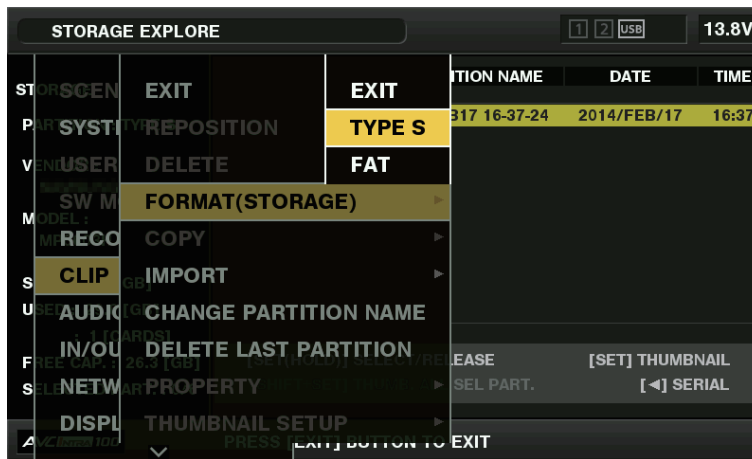

Fig. 1
- 2** Select the desired format ([TYPE S], [FAT]) in the main menu → [CLIP] → [FORMAT(STORAGE)]. (Fig. 1)